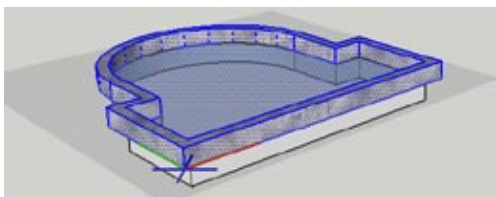

Figure 7-59
7. Select all faces and leave the back component unselected. Make a new component from these faces, with the axes oriented as shown in Figure 7-59. This component should also be set to cut openings.